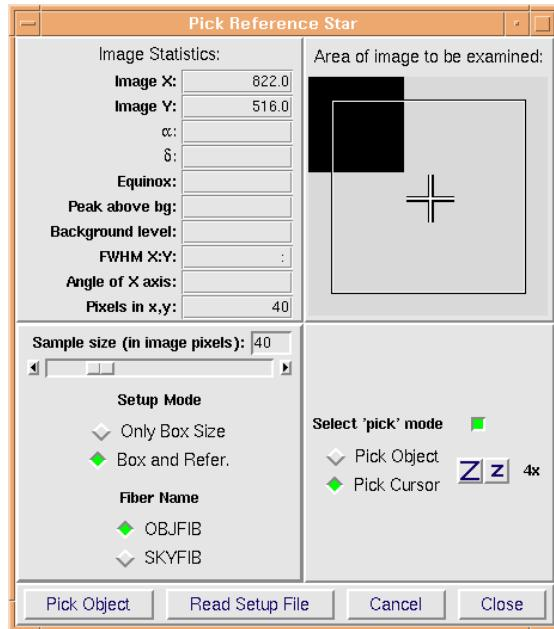

Figure 5.1: Window to set **FEROS** fibre reference position **Pick reference star**. Select checkbox **Pick Cursor**.
- i. Open or activate window Pick reference star (Fig. 5.1).